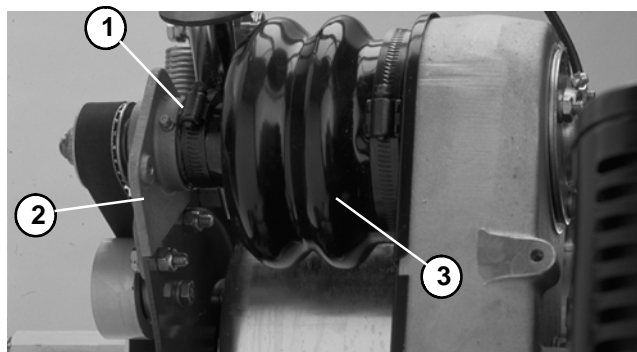

Figure 20
Note: On the housing (RH), the hose clamp must be loosened and the differential boot must be removed from the housing before the housing can be removed from the frame and differential axle (Fig. 20).
4. On the housing (RH), attach the differential boot to the housing. Secure the hose clamp to the boot and housing (Fig. 20).